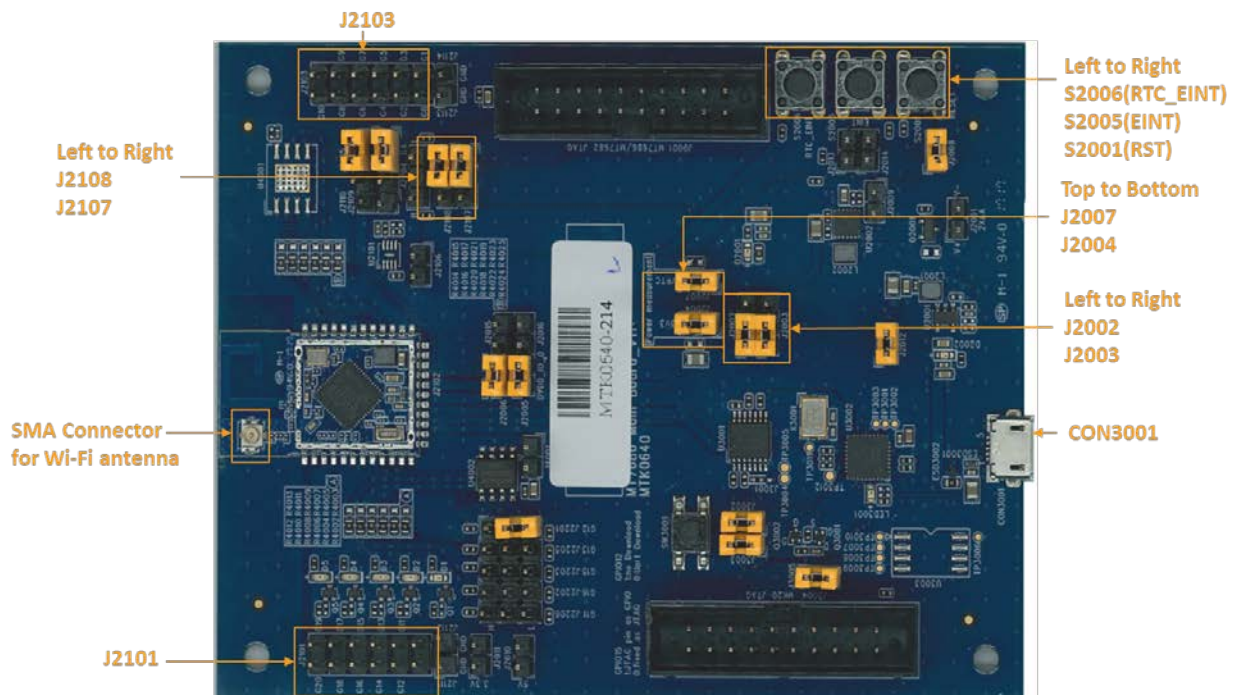
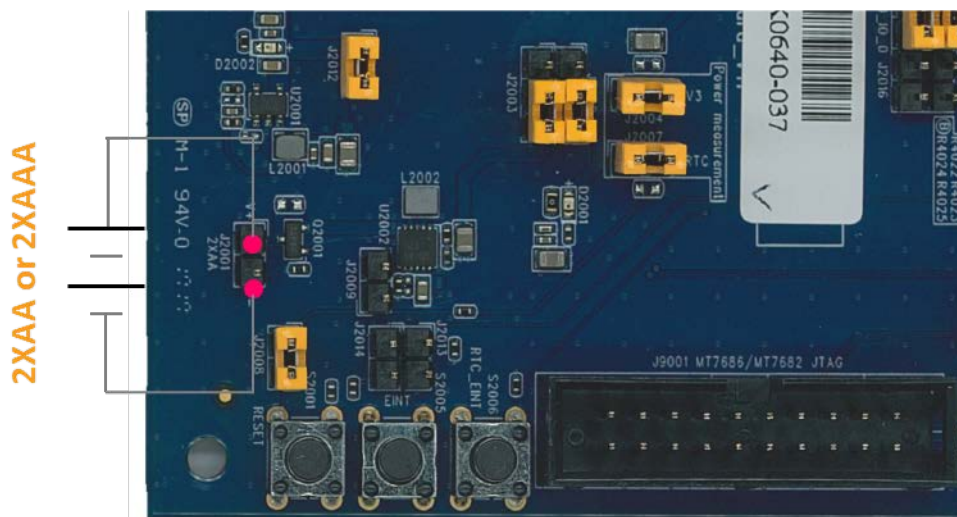

Figure 2. Jumpers and connectors on the MT7686 HDK
Figure 5. Power up the HDK using an AA or AAA Battery (J2001)
MT7686 HDK includes a main board (MT7686 Main Board_V11) and a MT7686 stamp module. The MT7686 stamp module is mounted on the main board. The top view of the main board is shown in Figure 2.
The description of pins (Figure 2) and their functionality is provided below.
The development board should now be connected to the PC, as shown in Figure 2.
An on-board switching regulator provides voltage of 3.3V for the MT7686 HDK based on MT7686F, if the power is supplied from an on-board micro-USB connector **CON3001** (Figure 2). This supply can be isolated from the switching regulator using the jumpers. Note, that the jumpers **J2002** pin 1 and pin 2, **J2003** pin 1 and pin 2, **J2004** and **J2007** are required to be set on. More details on the jumpers can be found in Table 1.
- Connect an external AA battery to battery pin header (**J2001**) to supply power to the system, as shown in Figure 5. When using an AA battery, plug the USB to micro-USB connector **CON3001** (Figure 2). Note, that the jumpers **J2002** pin 2 and pin 3, **J2003** pin 2 and pin 3, **J2004**, and **J2007** are required to be set on. More details on the jumpers can be found in Table 2.